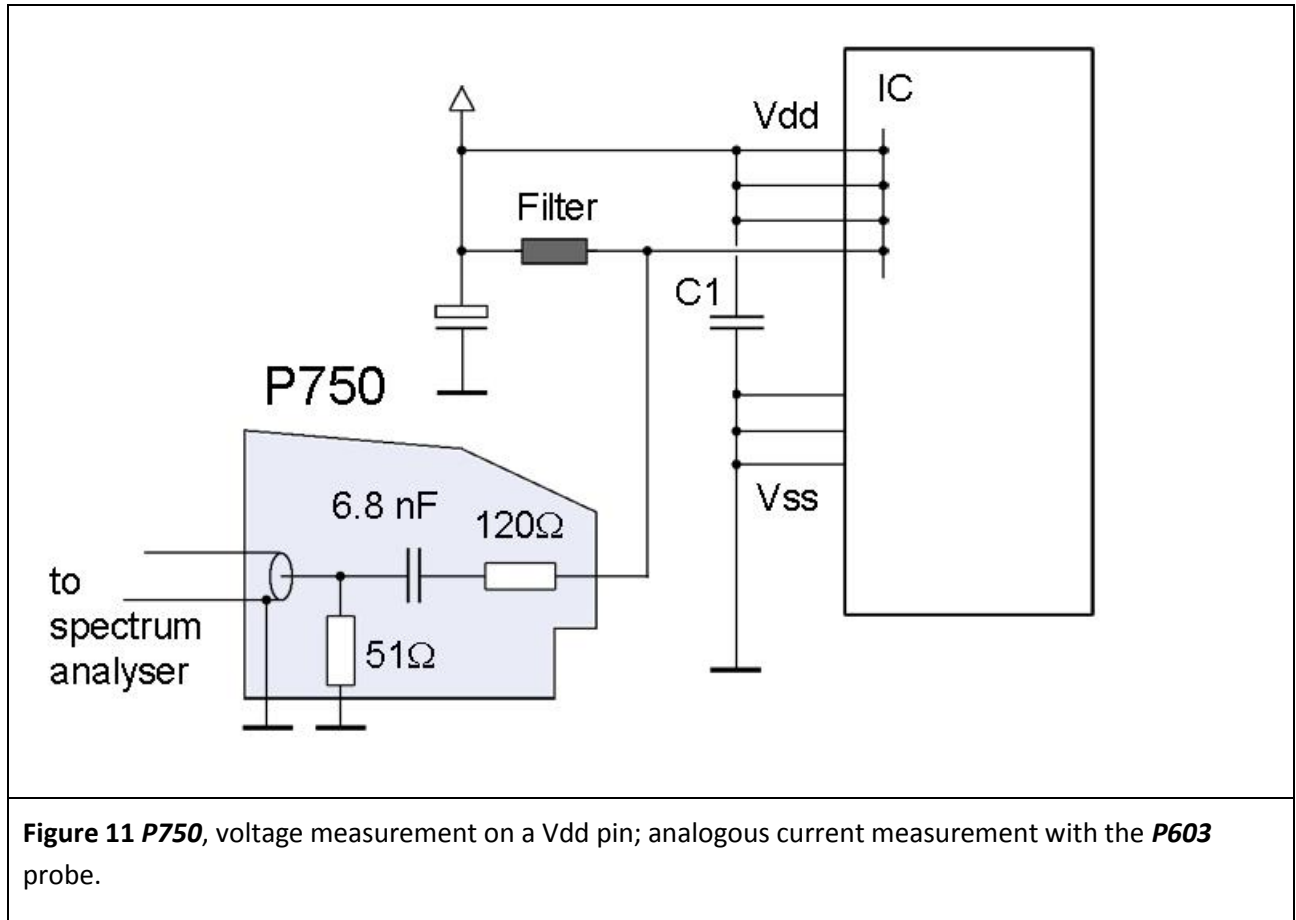

Figure 11 *P750*, voltage measurement on a Vdd pin; analogous current measurement with the *P603* probe.
6. Voltage measurement (**P750**) on a Vdd or Vss pin, **Figure 11**
An IC internal connection to other Vdd supply pins is assumed for a voltage measurement on a Vdd pin (**Figure 11**). This measurement enables the determination of voltage dips on the IC's internal Vdd network.